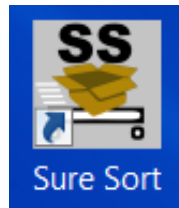

Figure 4-3: Sure Sort desktop icon
1. If the Host software is not already running, double-click on the Sure Sort™ icon (Figure 4-3) on the desktop OR click **Start > Programs > OPEX > Sure Sort™** to open it.